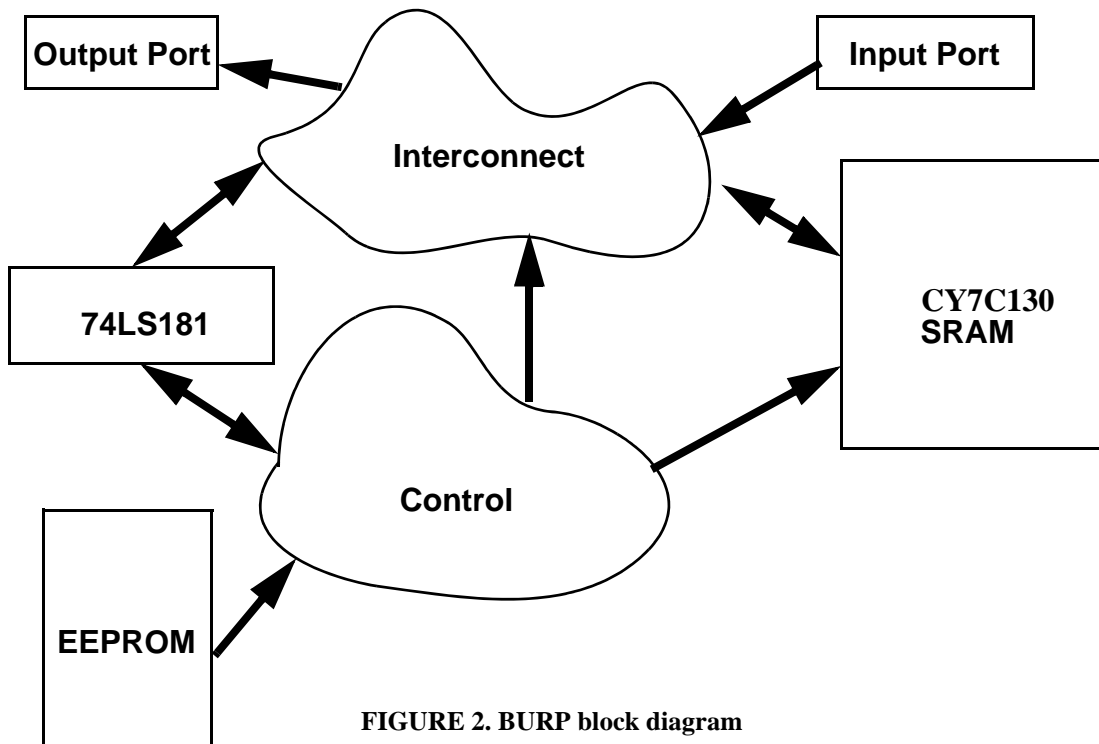

FIGURE 2. BURP block diagram
The control unit is the heart of the processor. It reads instructions from an external ROM where the program is stored, then sequences the appropriate control signals to the ALU, interconnect, and SRAM to execute the instruction. Figure 2 shows a block diagram of the control unit. Contained within the control unit are the Instruction Register (IR) and Program Counter (PC). Your controller must also maintain a carry flag, which may be encoded as a state in the controller. The IR can be implemented with either a 74373 or 74374,